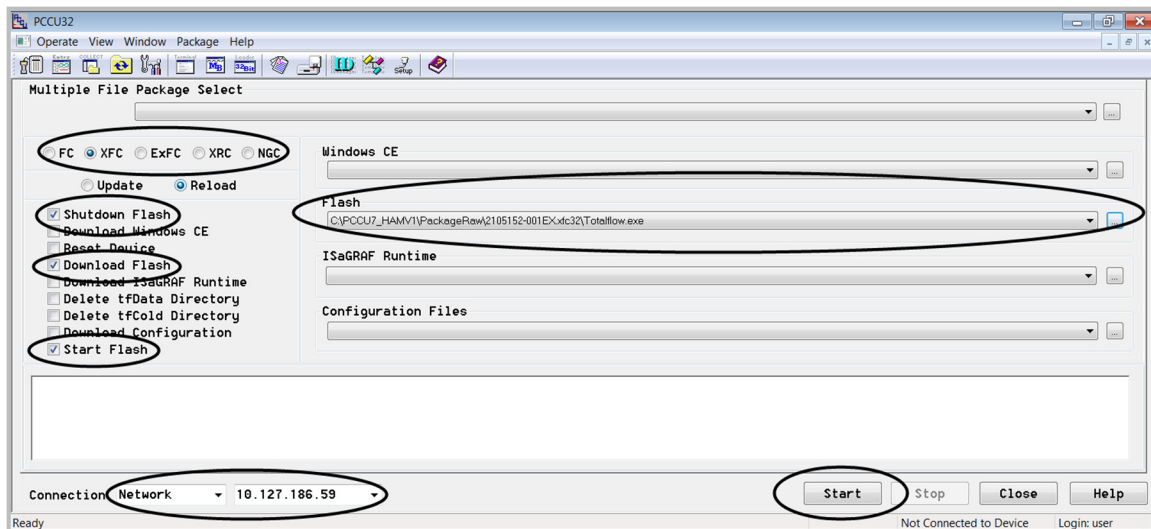

Figure 4: Device type selection
7. Select device type radio button in PCCU32 window (Figure 4).